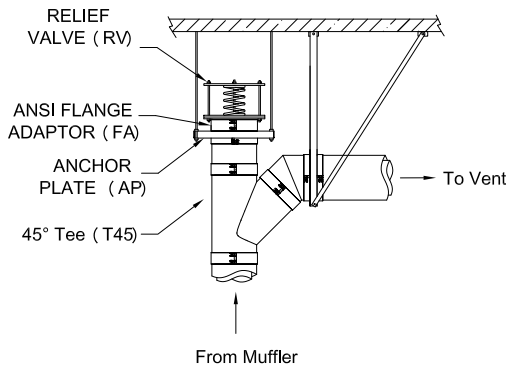
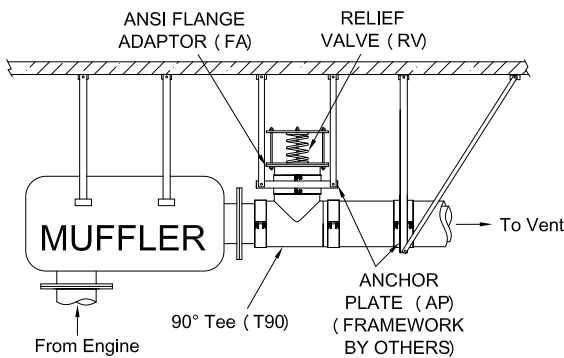

Figure 75b - Typical installations with a 45° Tee and a ANSI Flange Adaptor (FA)
Figure 75c - Typical installations with a 90° Tee and a ANSI Flange Adaptor (FA)
1. The Relief Valve (RV) should be located in the beginning of the system.
2. The orientation of the Relief Valve must be positioned upright, as shown on the Figure 75b with a 45° Tee (T45) or on Figure 75c with a 90° Tee (T90).
3. The Relief Valve must be connected to our ANSI Flange Adaptor (FA). Bolts, washers, nuts, and gasket (supplied by others) will provide a complete gas tight connection to the 125/150 lb. ANSI flanged Flange Adapter.
5. The Relief Valve (RV) must be supported independently of the rest of the exhaust system. The best method to accomplish this is to locate an Anchor Plate (AP) support at the joint between the ANSI Flange Adaptor (FA) and the adjacent Tee (T45 or T90). It is crucial that the Anchor Plate (AP) is properly secured to building structure so that it can withstand the forces generated in case of delayed fuel ignition.